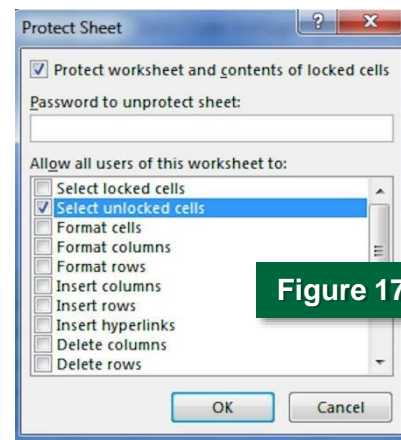

Figure 17
2. In the **Protect Sheet** dialog box, make sure **Select unlocked cells** is checked (Figure 17).